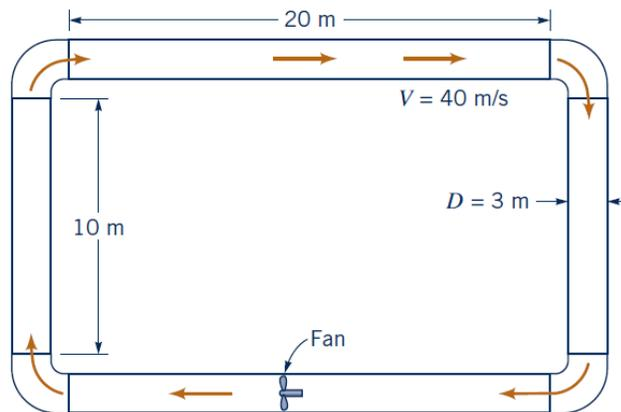

Fig. 4
7. A fan is to produce a constant air speed of 40 m/s throughout the pipe loop shown in Fig. 4. The 3-m-diameter pipes are smooth, and each of the four 90° elbows has a loss coefficient of 0.30. Determine the power that the fan adds to the air.